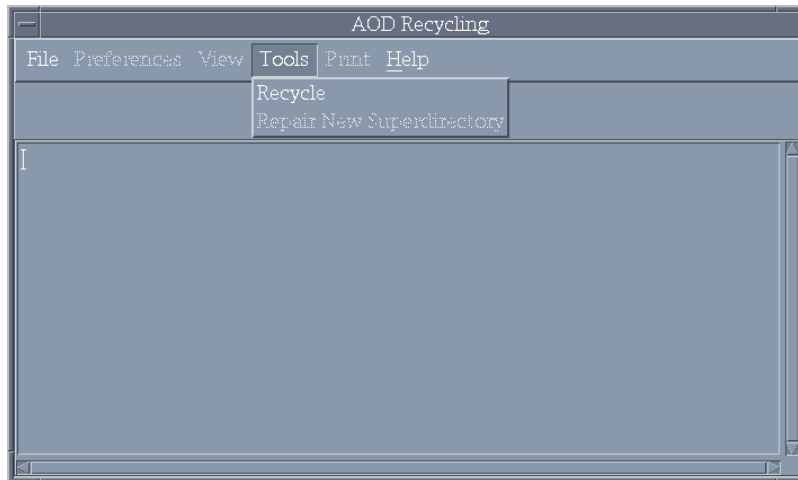

Fig. 22 – AOD Recycle window
- b. The **AOD Recycle** window (Fig. 22) is displayed. In this window, click on *File*, then *Open* to access the DMU and read the map information from the AOD (may take 30 to 60 seconds).